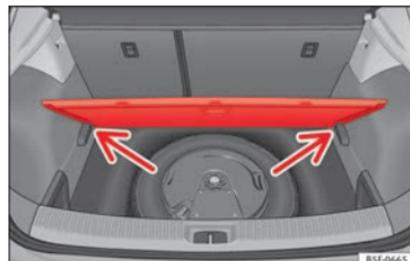

Fig. 181 Luggage compartment: variable floor
- Rest the floor on its housings »» Fig. 181 (arrows).